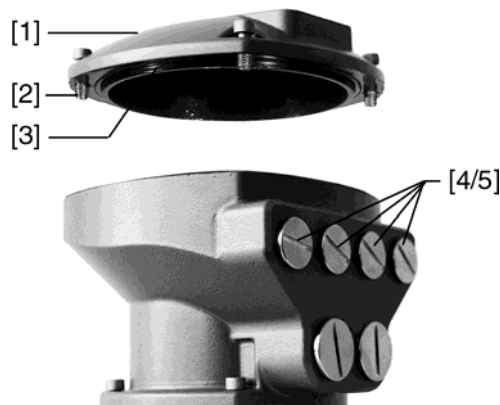

Fig. 1: FO round plug
The FO connection is located in the FO round plug. When removing the cover (Fig. 1, [1]), the connection board is easily accessible:
6. Clean sealing faces of cover (Fig. 1, [1]) and housing.
7. Check whether O-ring (Fig. 1, [3]) is in good condition, correctly insert O-ring.
8. Fit cover (Fig. 1, [1]) and fasten screws (Fig. 1, [2]) evenly crosswise.
9. Tighten cable glands (Fig. 1, [4]).